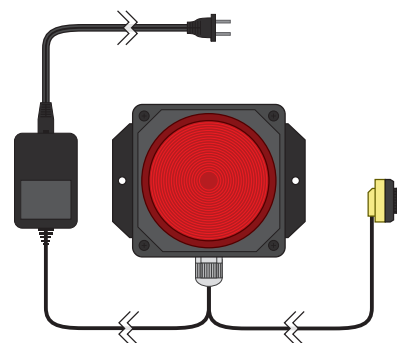

FIG. 22
Install the Dust Sentry (T) [FIG. 22] by referencing the included instruction sheet: